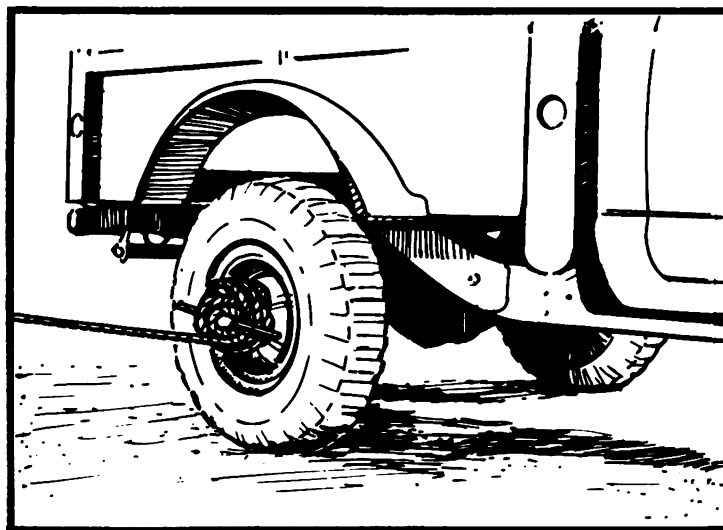

Figure 5. Attachment of rope to single wheels to be used as a winch.
b. Use of Wheels for Winching. On wheeled vehicles not equipped with a winch, the rear wheels may be used to assist in recovering the vehicle. On a dual-wheeled truck, a rope with one end fastened to the wheel hub and the other end anchored, will cause the rope to be wound between the dual wheels providing the same action as a winch. The end of the rope that is fastened to the wheels should be run between the duals and through one of the holes in the wheel disk. Care should be taken not to place the rope through a hole in the wheel disk where the valve stem is located. A bowline knot is tied in the end of the rope and slipped over the hub. Tie a second rope in the same manner to the dual wheels on the other end of the axle, then place the vehicle in reverse gear; the ropes will wind between the two duals, causing the vehicle to move rearward. If the truck has single wheels, such as the M715 and M151, the same expedient can be used by placing a bar through the hole in the end of the axle flange. A rope is attached to the wheels on each side of the vehicle by fastening them to the bars with figure 8 hitches (figure 5). Applying power will cause the ropes to be wound around the hubs and move the vehicle.